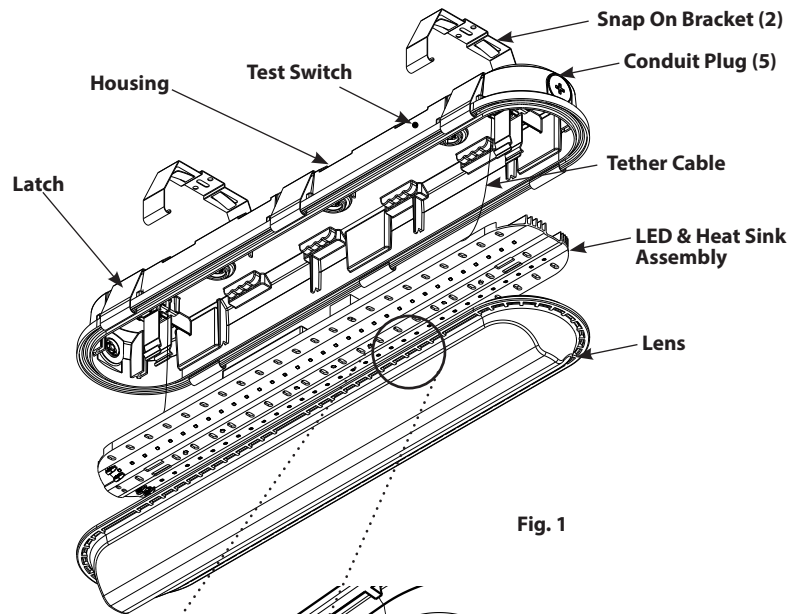

Fig. 1
1. Use appropriate mounting hardware (not supplied) to secure the **Snap On Brackets (2)** to **Mounting Surface**. Recommended **Snap On Bracket** distance center to center is 15-3/16" (for 2 feet) and 37-19/32" (for 4 feet). **WARNING: Mount Snap On Brackets (2)** farther away from each other and symmetrical about the center. To secure **Housing**, **Snap On Brackets (2)** must be aligned with each other.
3. Snap out the **LED & Heat Sink Assembly**. **Tether Cables (2)** are provided, if required.
4. Feed supply wires through one of the **Conduit Plugs (5)** to make electrical splices. Cord-grips (2) are provided and can be used based on application.
7. Snap **Housing** on **Snap On Brackets (2)** as shown in **Fig. 2**. Ensure that **Housing** is secure to **Snap On Brackets (2)** and inserted into the **Grooves** on **Lens** as shown in **Fig. 1**.
3. Snap **Housing** on **Snap On Brackets (2)** as shown in **Fig. 2, Page 1**. Ensure that **Housing** is secure to **Snap On Brackets (2)** onto the **Grooves** on **Lens** as shown in **Fig. 1, Page 1**.